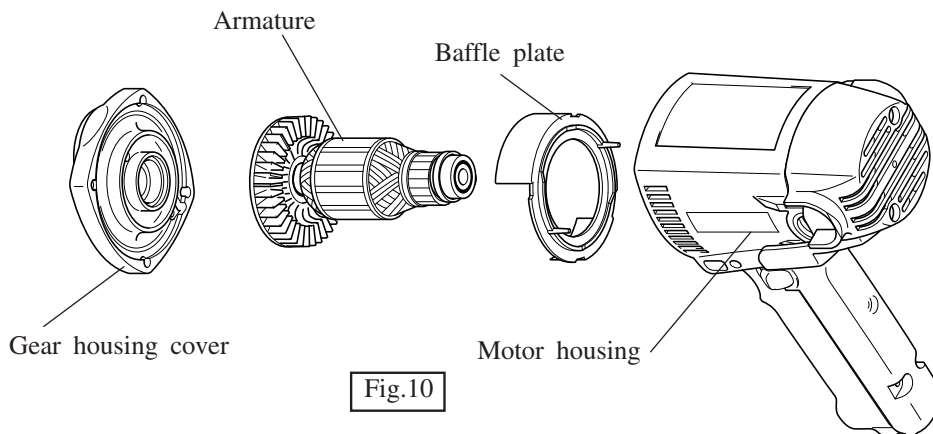

Fig.10
- (3) Disassemble gear housing cover from motor housing and take out armature from motor housing. See Fig.10.